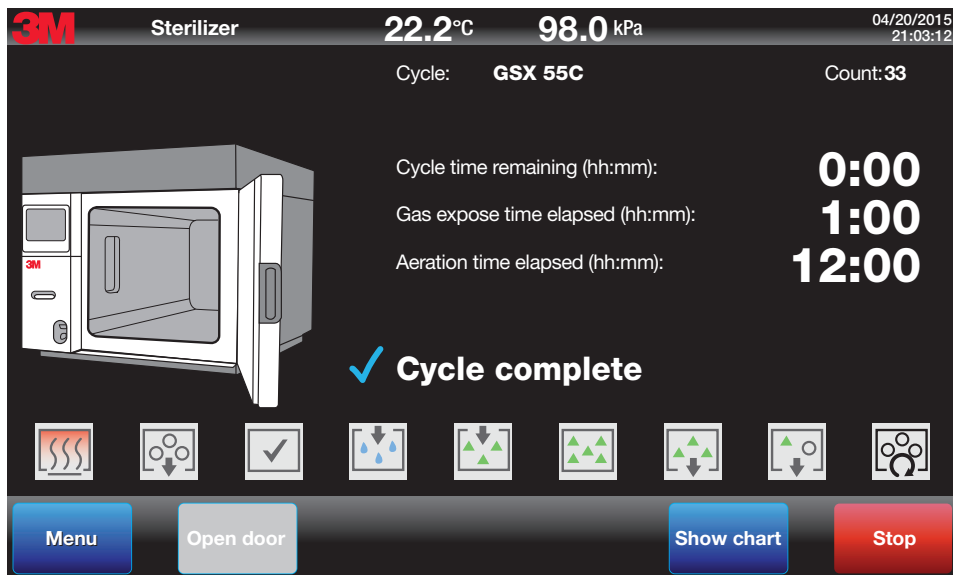

Figure 89.
5. Press the **Stop** button to generate a printout of the cycle report (Figure 89). The display screen will return to the main screen.